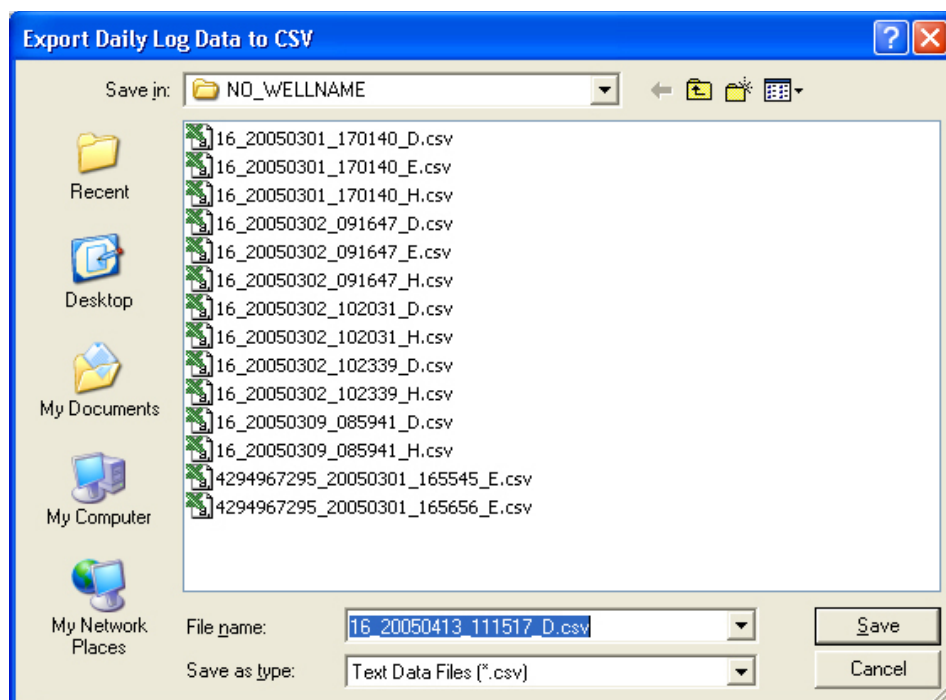

Figure 5.13—Default directory for exported log files
2. When the “Export Daily (or Hourly) Log Data...” window appears, click “Save.” By default, exported logs are saved in C:\NuFlo log data\MC-III\<WELL NAME>, however the user can specify a new location, if desired (Figure 5.13, page 80). The “wellname” folder will bear the well name that appears on the Wellsite Information screen. If no well name is entered on this screen, the folder will be named “NO_WELLNAME.”